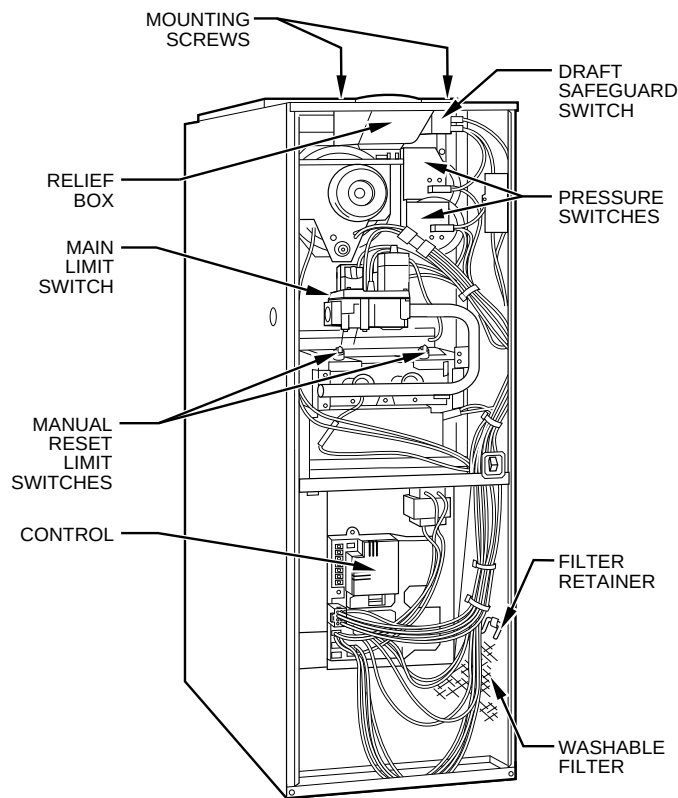

Fig. 5—Model 330JAV Upflow
Each furnace requires 1 or 2 filters which are installed in the blower compartment. (See Fig. 5.) To remove filters for cleaning or replacement, proceed as follows:
- Release filter retainer from clip at front of furnace casing. (See Fig. 5.) For side return, clips may be used on either or both sides of the furnace.
5. Remove 2 screws that secure relief box. (See Fig. 5 or 6.)